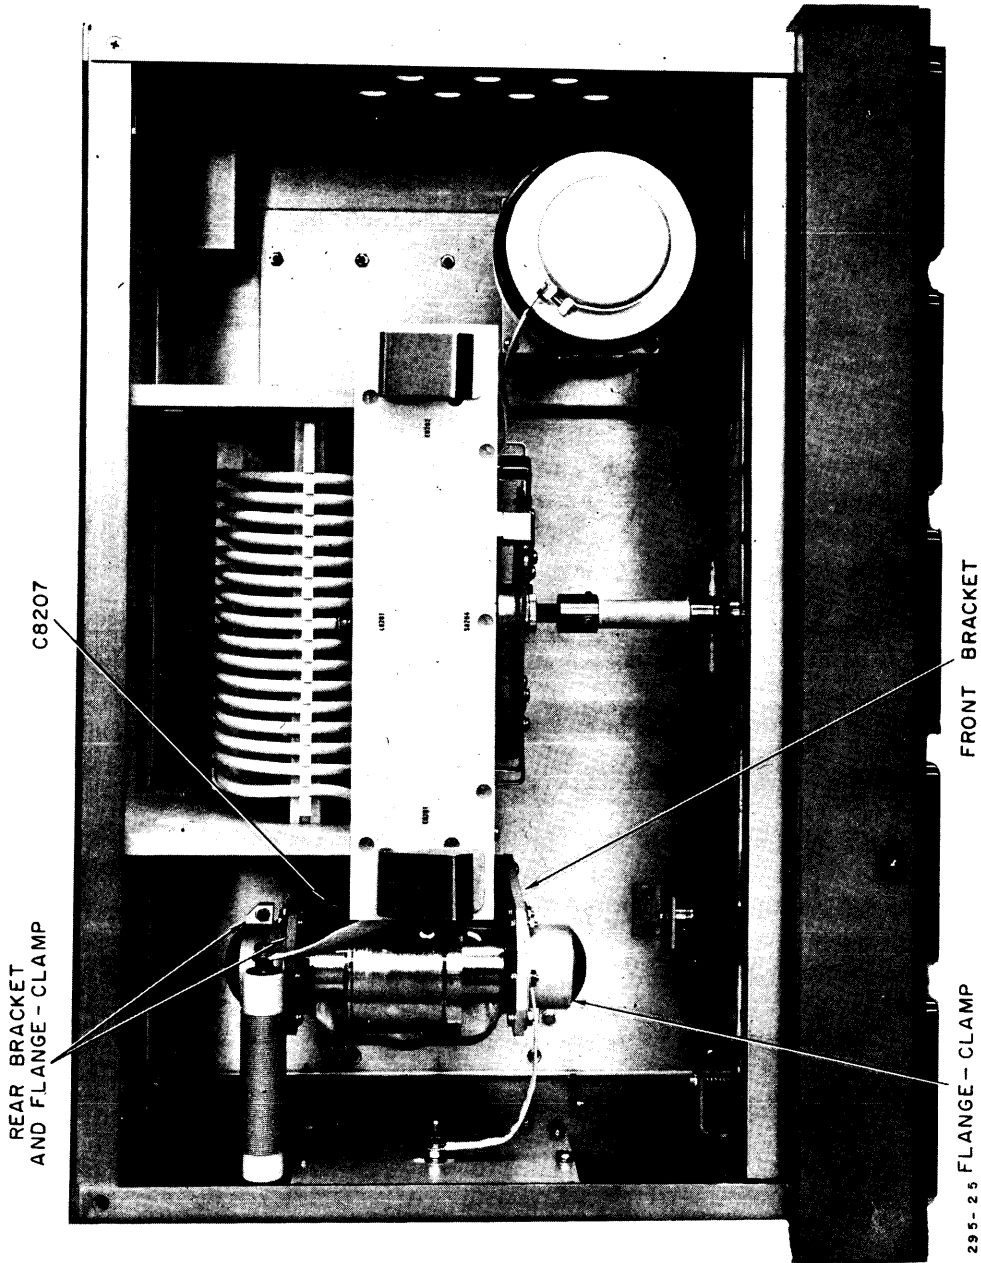

Figure 4-22. Antenna Tuner Drawer 8200, Top View.
- c. Loosen set screw, figure 4-22, on both flange-clamps.